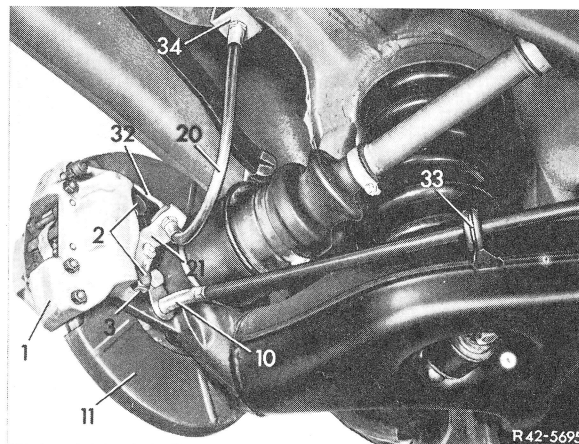

Fig. 6
**13** Make sure of perfect layout of brake cable control (10) in rubber sleeve of holder (33) (Fig. 6).